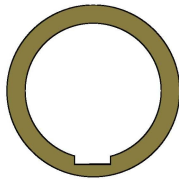

Figure 1
- **Step 4** Modify two of the CR-5055 centering rings with a flat notch on the inside diameter, as shown in Fig. 1 above. Mark these as "A" rings.